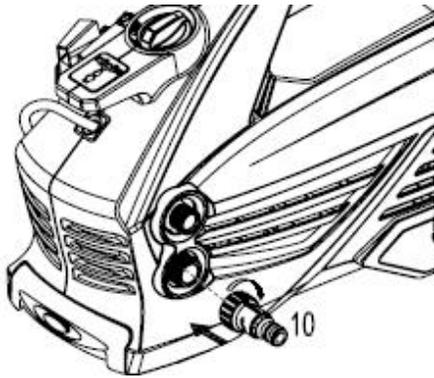

Fig.3
Screw the water inlet connector (10) onto the water inlet pipe. (Fig.3)